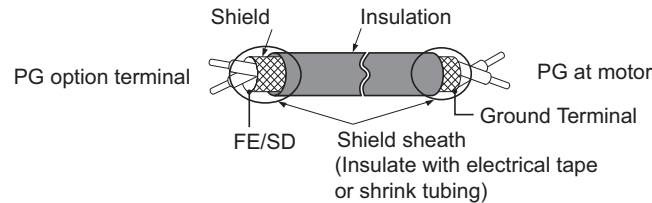
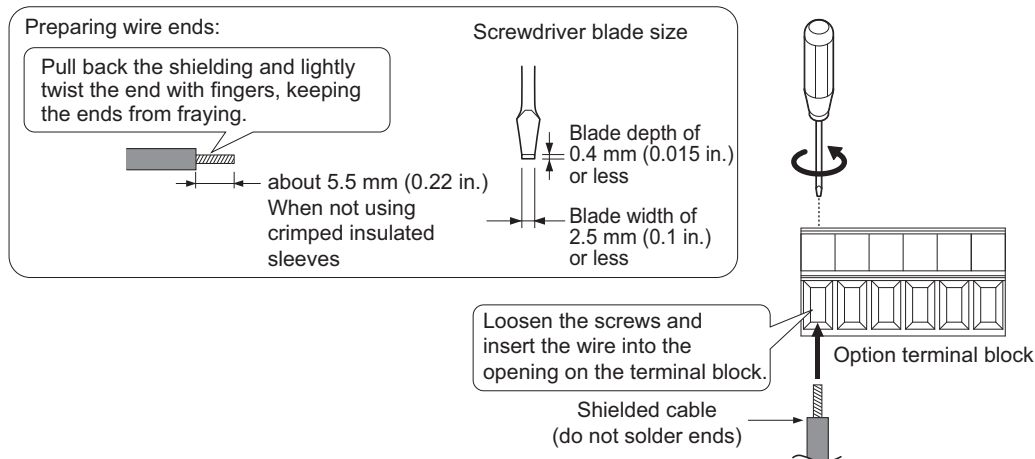

Figure 8.6 Preparing Ends of Shielded Cable
Figure 8.7 Preparing and Connecting Cable Wiring
2. There are two screw holes on the drive for use as ground terminals (I). When connecting three options, two ground wires will need to share the same drive ground terminal.
4. Prepare and connect the wire ends as shown in Figure 8.6 and Figure 8.7. **Wire Gauges and Tightening Torques on page 361** to confirm that the proper tightening torque is applied to each terminal. Take particular precaution to ensure that each wire is properly connected and wire insulation is not accidentally pinched into electrical terminals.